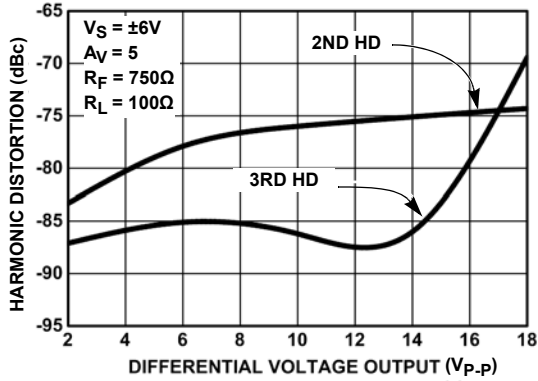
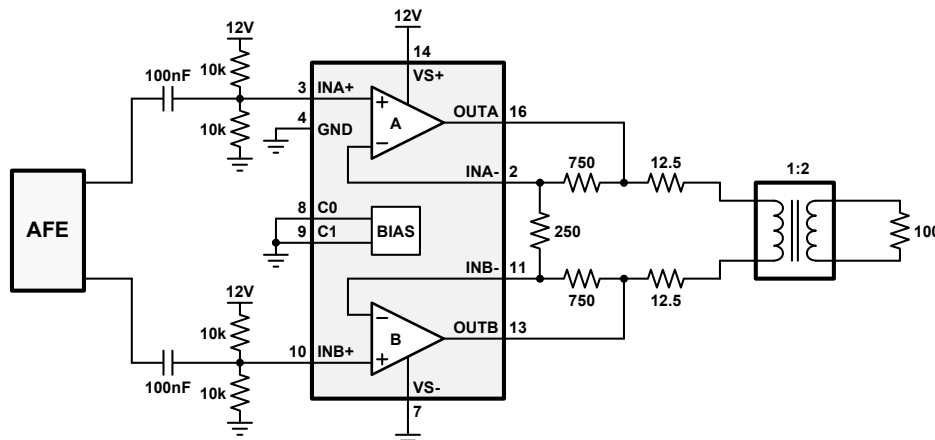
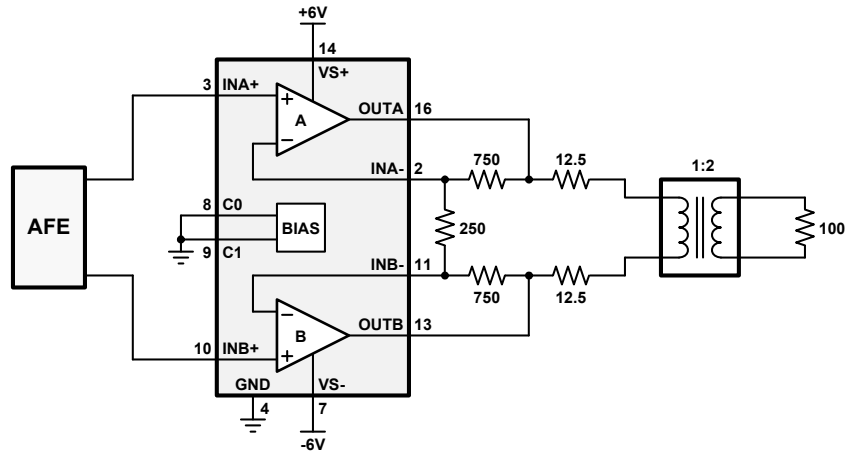

FIGURE 8. HARMONIC DISTORTION AT 2MHZ
FIGURE 25. SINGLE SUPPLY OPERATION WITH INPUT COMMON-MODE BIASING
FIGURE 26. ADSL CPE DRIVER
- DC bias the inputs at an appropriate common mode voltage and AC couple the signal (Figure 25), or:
line voltage is 1.67VRMS. The ADSL DMT peak to average ratio (crest factor) of 5.3 implies peak voltage of 7.5V into the line. Using a differential drive configuration and transformer coupling with standard back termination, a transformer ratio of 1:2 is selected. The circuit configuration is shown in Figure 26.
| May 2, 2018 | FN7522.4 | Added Figure 1.Added ISL1557FRZ part information throughout document.Added Pin Description tableAdded Table 1.Added Theta JA and JC information under the Thermal Information section.Updated Figures 8 through 16.Added Figure 25.Updated Figure 26. |